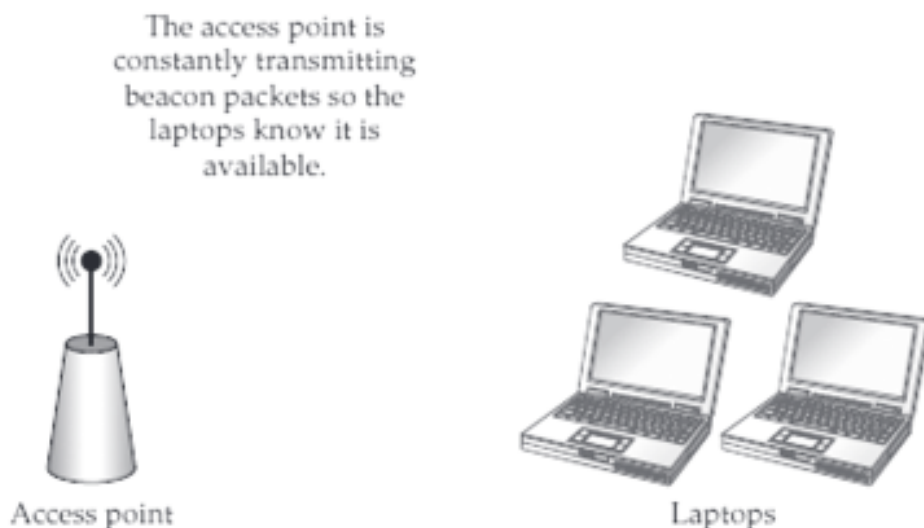

Fig. 6 APs regularly transmit beacon packets so that wireless clients can find them
- This is shown in Figure 6. Association requires a WiFi radio to tune to every channel and listen for the AP to broadcast a beacon.